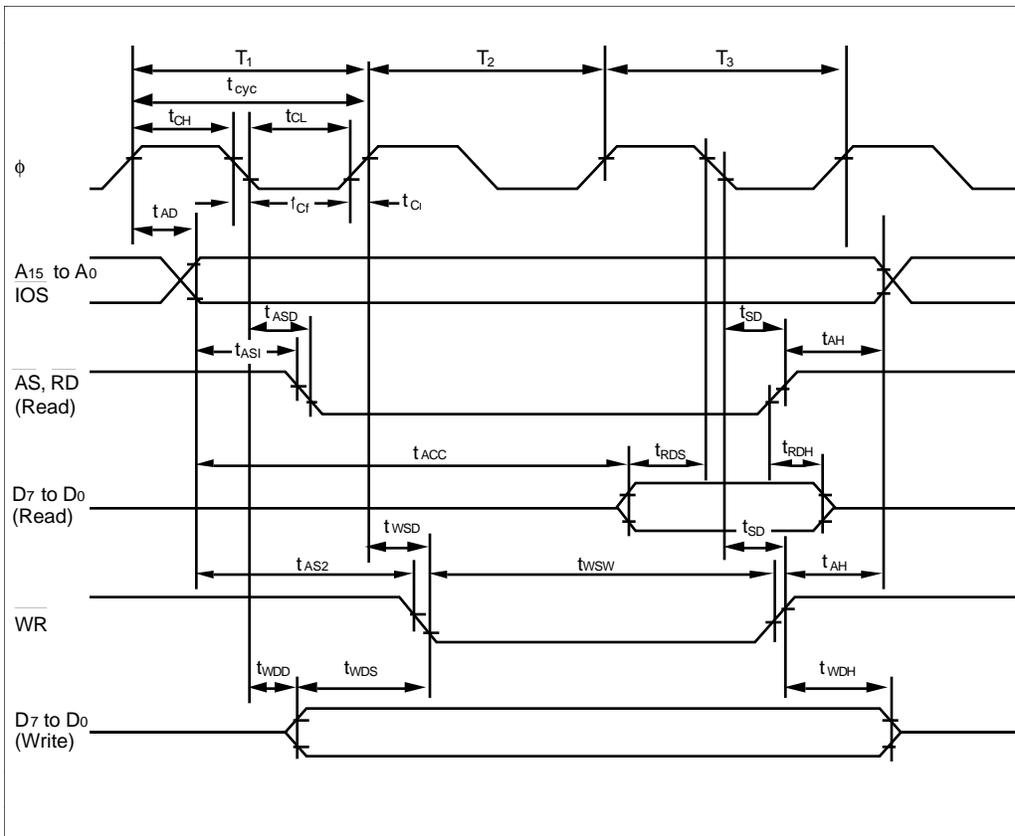

Figure 17-4 Basic Bus Cycle (Without Wait States) in Expanded Modes
- 17.3.1 Bus Timing Figures 17-4 to 17-5